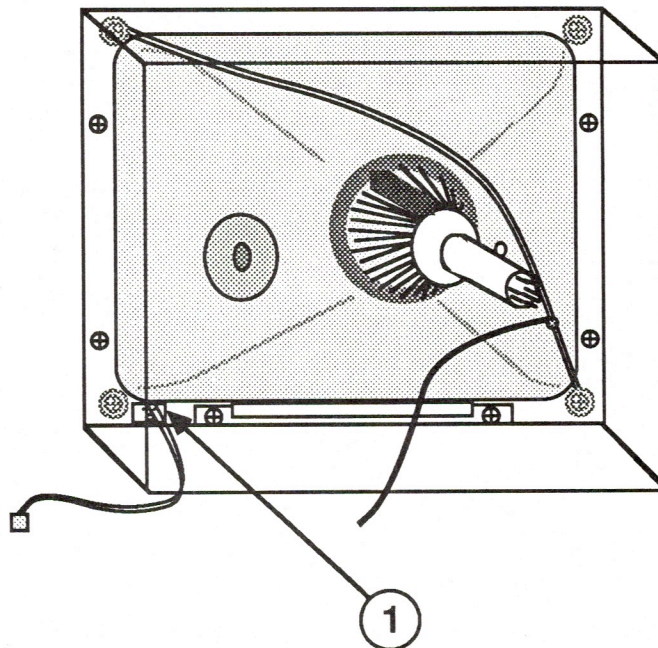

FIGURE 17
6. Remove the screw that holds the LED board in the lower left corner of the bezel (Figure 17, #1).